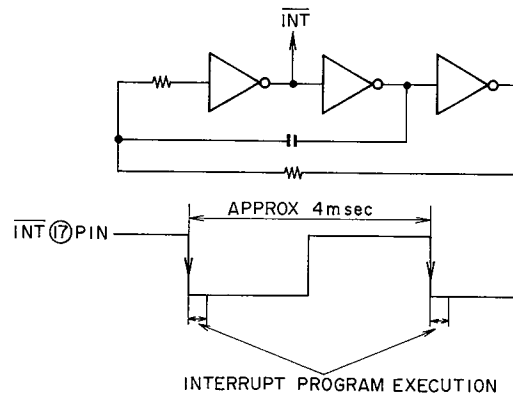

Fig. 11 INT Signal Oscillator and Waveform
The waveform shown in Fig. 11 is applied to pin ⑰ of terminal INT from the oscillator circuit of IC6. As terminal INT falls from "H" to "L", the CPU interrupts execution of the main program and changes to the interrupt processing routine. Since the waveform applied to INT rises and falls in intervals of approximate 4 msec (250 times per second), the interrupt processing routine runs regularly in the same intervals.